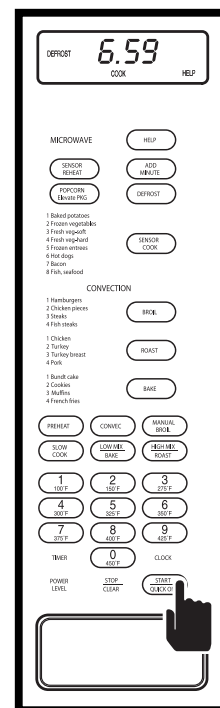

Figure 3-54.
4. Press QUICK ON/START key to start the auto defrost process and the display will show the time as it counts down along with the word “DEFROST ” (See Figure 3-54).